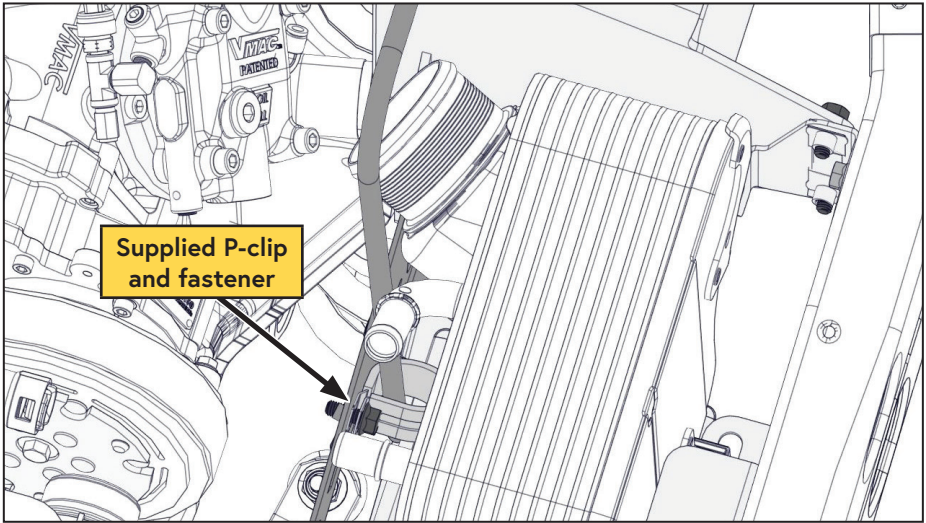

Figure 89 — Installing the CAC
- ☐ Using the supplied P-clip and fastener, secure the degas tank overflow hose to the degas tank bracket (Figure 89).